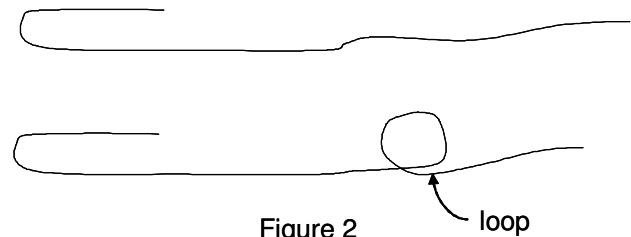

Figure 2
3. Un-bend and straighten one part of each of the paperclips (Figure 2, top). Then form a loop in the straightened ends of each by wrapping the straightened ends around a pencil (Figure 2, bottom).